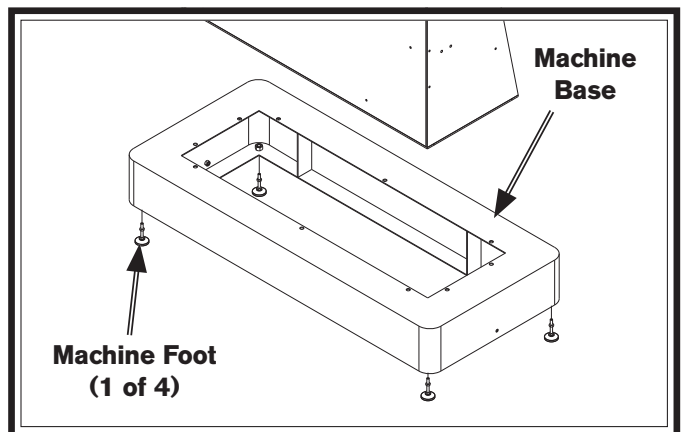

Figure 13. Machine feet mounting locations (machine base separated for clarity).
1. While machine is suspended to provide access to mounting holes at base of machine, install (4) M12-1.75 x 40 machine feet at locations shown in **Figure 13**.